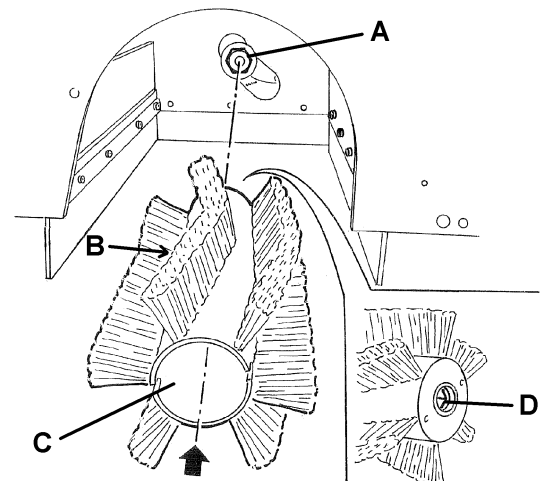

Figure 5
7. Check that the drive hub (A, Fig. 5) is free from dirt or foreign materials (ropes, rags, etc.) accidentally rolled up.
8. The new main broom must be installed with the bristles rows (B, Fig. 5) bent as shown in the figure.
9. Install the new main broom (C, Fig. 5) and ensure that the mesh (D) correctly fits into the relevant drive hub (A).